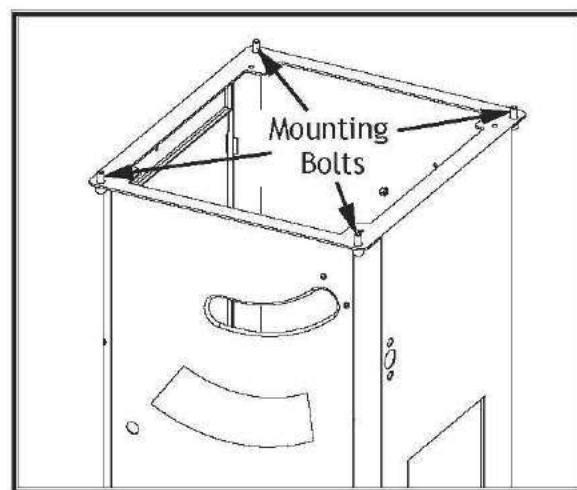

Figure 106. Location of table mounting bolts (table omitted for clarity).
6. Loosen (4) table mounting bolts securing table top to base (see **Figure 106**), and lightly tap table in direction needed to square table to blade.
9. Loosen (4) table mounting bolts from **Step 6**.